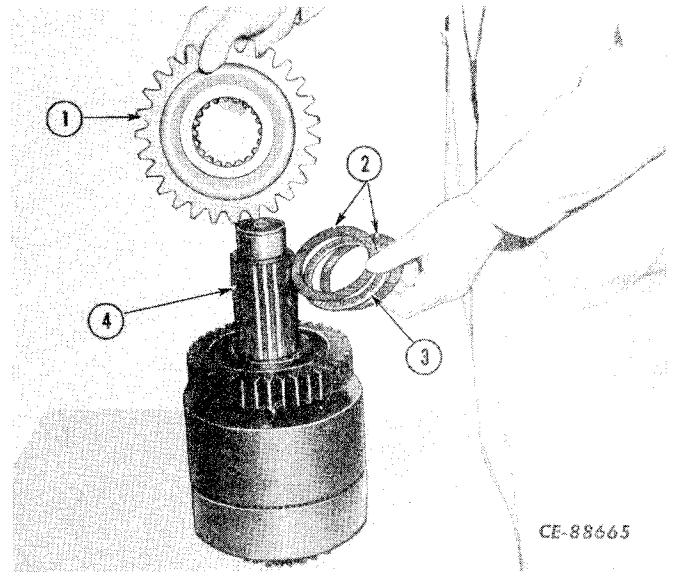

Figure 4-106
Remove the output drive gear (1, Fig. 4-106) from the shaft (4). Remove the two thrust washers (2) and thrust bearing (3) that make up the thrust bearing assembly.